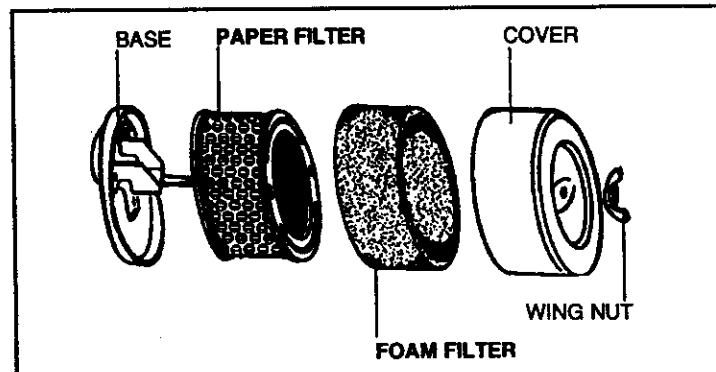

Figure 4
③ AIR CLEANER (see Figure 4):
A. TO SERVICE FILTER(S) (see Figure 4):